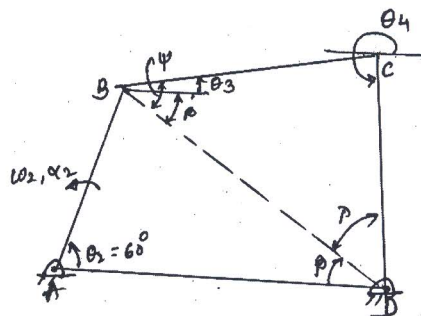

Fig.Q5
- 5 In a four bar mechanism ABCD (Fig.Q5) link $AB = 300\text{mm}$, $BC = 360\text{mm}$, $CD = 360\text{mm}$, and fixed link $AD = 600\text{mm}$. The link AB makes 60° with fixed link AD. The link AB has an angular velocity of 10 rad/sec and angular acceleration 30 rad/sec^2 both clockwise. Determine the angular velocity and angular acceleration of link BC and CD. (16 Marks)